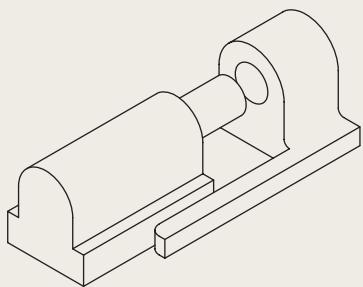
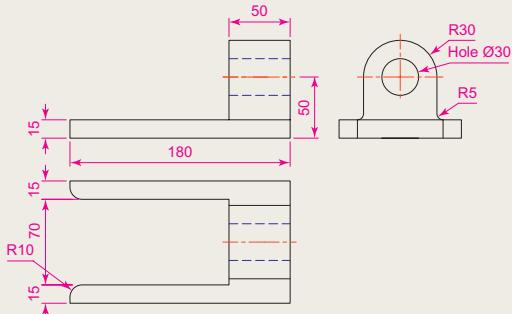

Fig. 7.23 Exercises 1, 2 and 3 – an isometric drawing of the three parts of the slider on which these exercises are based
Fig. 7.24 Exercise 1
Fig. 7.23 is an isometric drawing of a slider fitment on which the three exercises **1**, **2** and **3** are based.
- Fig. 7.24 is a first angle orthographic projection of part of the fitment shown in the isometric drawing Fig. 7.23. Construct a three-view third angle orthographic projection of the part.